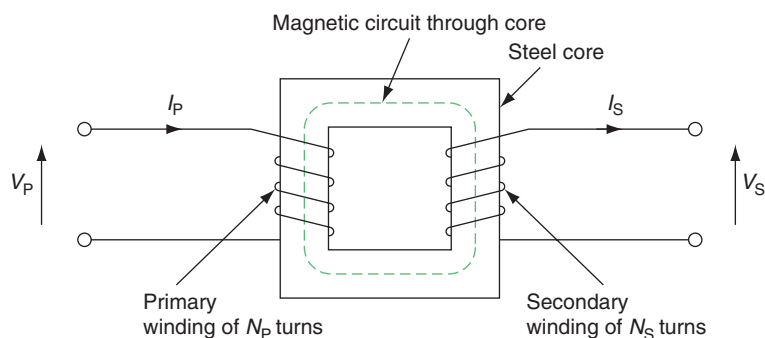

Figure 2.30 A simple transformer.
- A transformer such as that shown in Fig. 2.30 consists of two coils called the primary and secondary coils or windings, wound on to a common core. The iron core of the transformer is not solid but made up of very thin sheets called laminations, to improve efficiency.